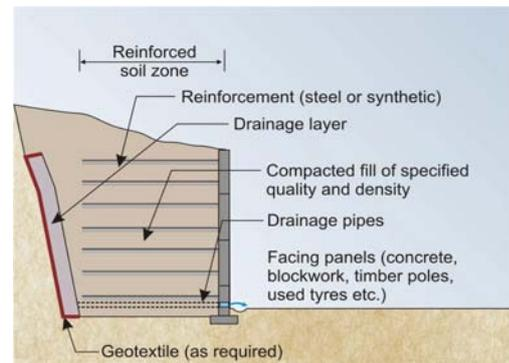

Figure 5 - Typical reinforced soil wall
**Reinforced soil walls** (Figure 5) - are made of compacted select fill in which layers of reinforcement are buried to form a "reinforced soil zone". The reinforcement is all important, because it holds the soil "wall" together. Reinforcement may be steel strip, or mesh, or a variety of geosynthetic ("plastic") products. The facing panels are there to protect the soil "wall" from erosion and give it a finished appearance.